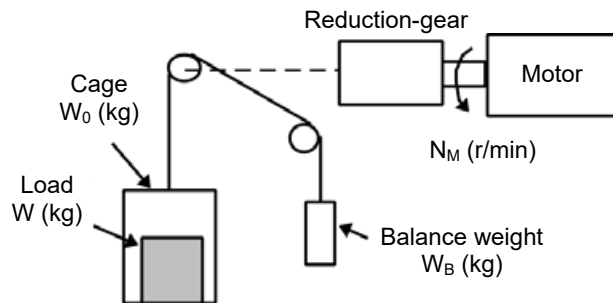
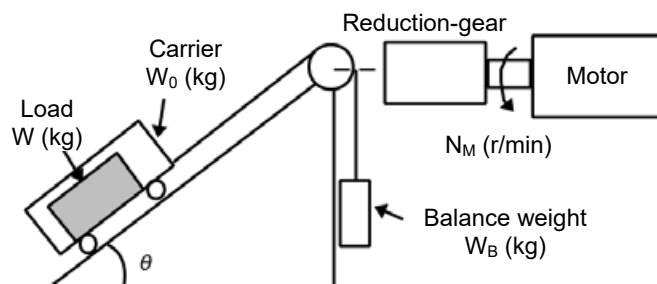

Fig. 10.3-2 Vertical lift load
Fig. 10.3-3 Inclined lift load
A simplified mechanical configuration is assumed as shown in Fig. 10.3-2. If the mass of the cage is  $W_0$  (kg), the load is  $W$  (kg), and the balance weight is  $W_B$  (kg), then the forces  $F$  (N) required for lifting the load up and down are expressed as follows (equation (Equation 10.3-5 and equation (Equation 10.3-6).
Although the mechanical configuration of an inclined lift load is similar to that of a vertical lift load, non negligible friction force in the inclined lift makes the difference; in an inclined lift load, there is a distinct difference between the expression to calculate the lift force  $F$  (N) for lifting and that for lowering. If the incline angle is  $\theta$ , and the friction coefficient is  $\mu$ , as shown in Fig. 10.3-3, the driving force  $F$  (N) is expressed as follows:
The moment of inertia  $J$  ( $\text{kg} \cdot \text{m}^2$ ) of the loads connected with a rope as shown in Fig. 10.3-2 and Fig. 10.3-3 is calculated with the following equation ((Equation 10.3-14) using the mass of all moving objects, although the motion directions of those loads are different.